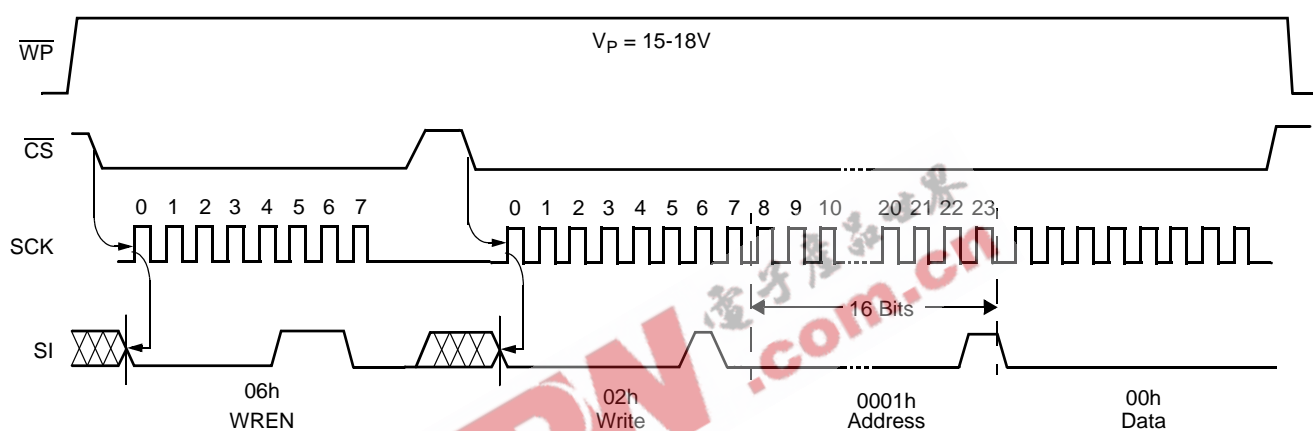

FIGURE 1. SET  $V_{TRIP}$  LEVEL SEQUENCE ( $V_{CC}$  = DESIRED  $V_{TRIP}$  VALUE)
0000 0001	Write status instruction—followed by: Block lock/WDT byte: (See Figure 1) 000WD 1 WD 2 000 --->no block lock: 00h-00h--->none of the array 000WD 1 WD 2 001 --->block lock Q1: 0000h-00FFh--->lower quadrant (Q1) 000WD 1 WD 2 010 --->block lock Q2: 0100h-01FFh--->Q2 000WD 1 WD 2 011 --->block lock Q3: 0200h-02FFh--->Q3 000WD 1 WD 2 100 --->block lock Q4: 0300h-03FFh--->upper quadrant (Q4) 000WD 1 WD 2 101 --->block lock H1: 0000h-01FFh--->lower half of the array (H1) 000WD 1 WD 2 110 --->block lock P0: 0000h-000Fh--->lower page (P0) 000WD 1 WD 2 111 --->block lock Pn: 03F0h-03FFh--->upper page (PN)